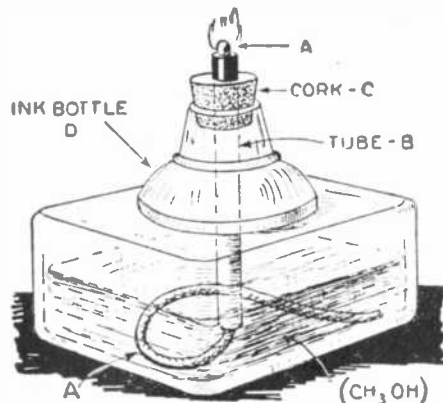

FIG. 1
shape as a metal tube 1/4 inch in internal diameter and 1 inch long will make the holder for the wick which is made of string doubled up a number of times. A glance at Fig. 1 will show the arrangement of parts with (A)